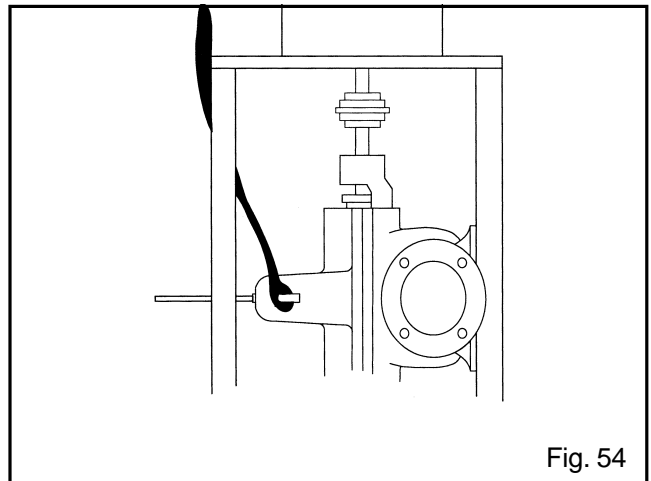

Fig. 54
5. Sling around casing upper half ears using nylon fling, pulling slings taught so it is not possible for slings to slip off. (See Fig. 54)